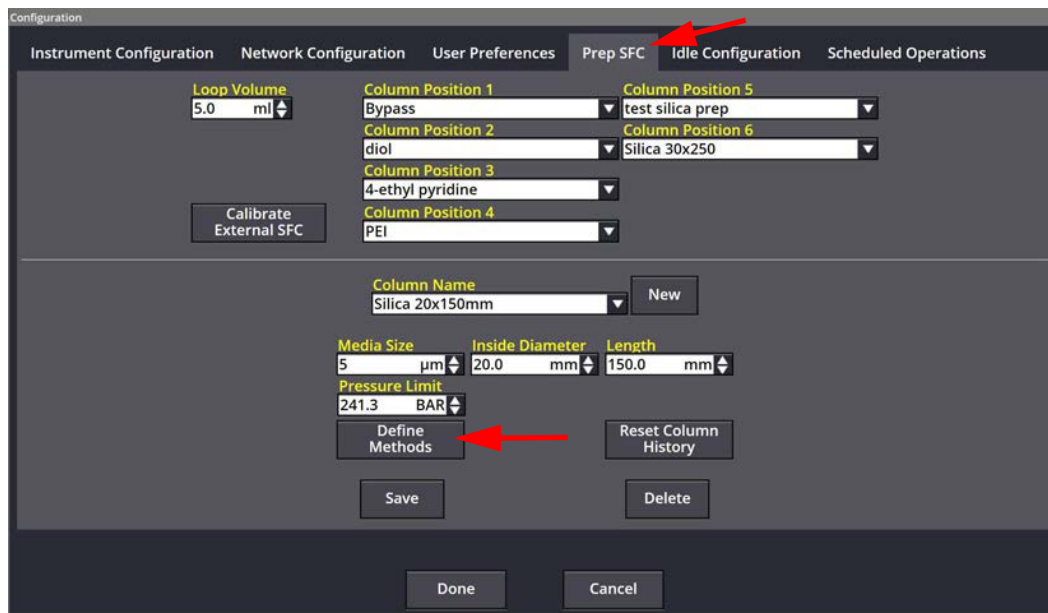

Figure 2-13 Column Configuration
2. On the PREP SFC tab, select the COLUMN NAME that you want to associate with a scouting gradient (Figure 2-13).